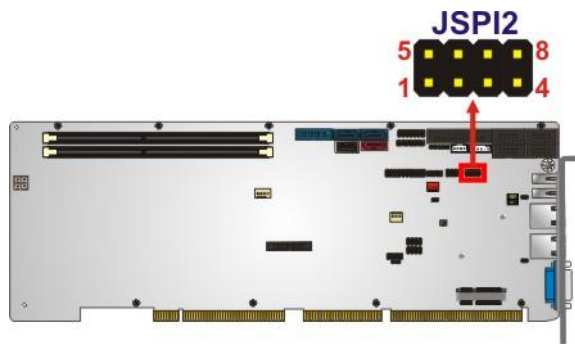

Figure 3-27: SPI EC Flash Connector Location
- CN Location:** See Figure 3-27